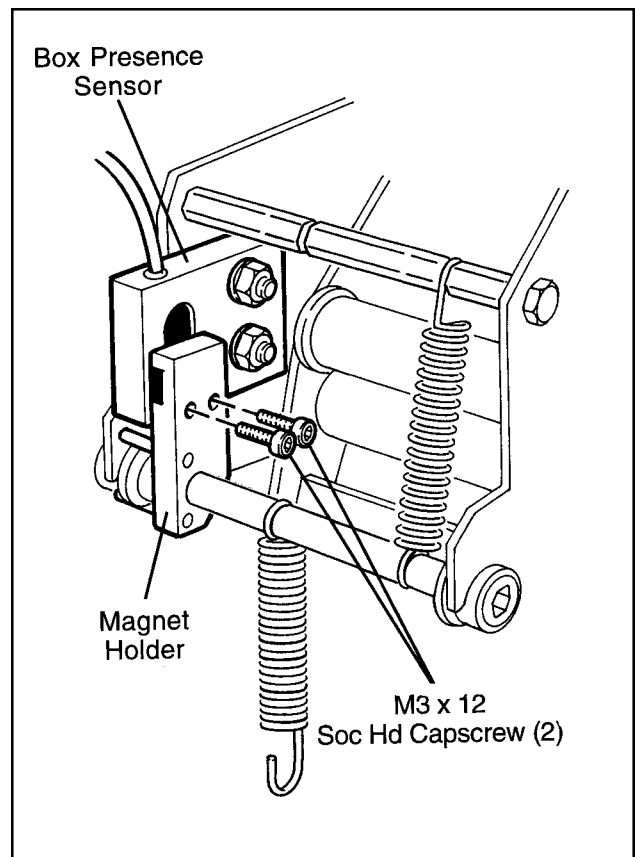

Figure 2-9
10. Insert two M3 x 12 mm lg. socket head capscrews through the holes in the magnet holder and into the tapped holes in the box presence sensor. If the holes do not line up, shift the location of the box presence sensor to line up the holes. Snug the M3 capscrews (**this aligns the sensor temporarily**). See Figure 2-9.